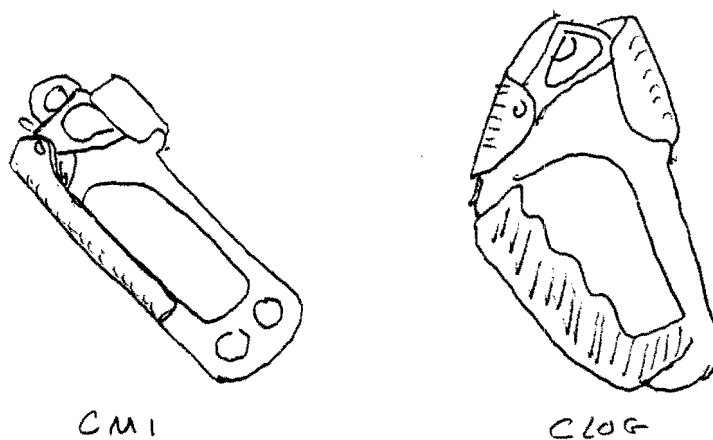

Figure 2.12. The CMI and Clog Ascenders
b) CMI and Clog Ascendeurs. Two new ascendeurs, which are really modifications of the older Tumar design, are the CMI ascendeur and the Clog ascendeur. These are illustrated in figure 2.12. The main differences between the CMI and the Tumar are improved metallurgy and modification of the safety catch design. CMI guarantees